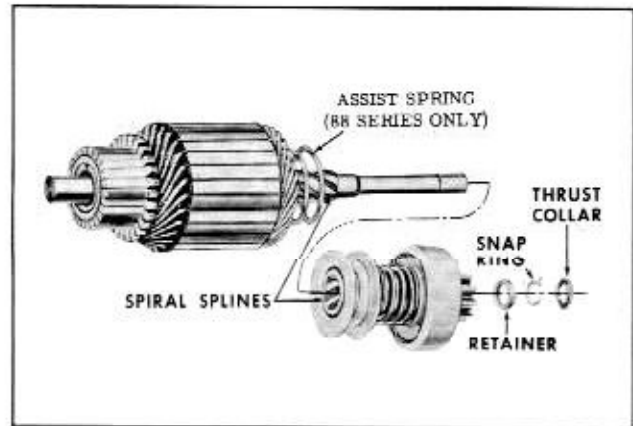

Fig. 13-45 Overrunning Clutch
- a. Remove thrust collar from armature shaft. (Fig. 13-45)